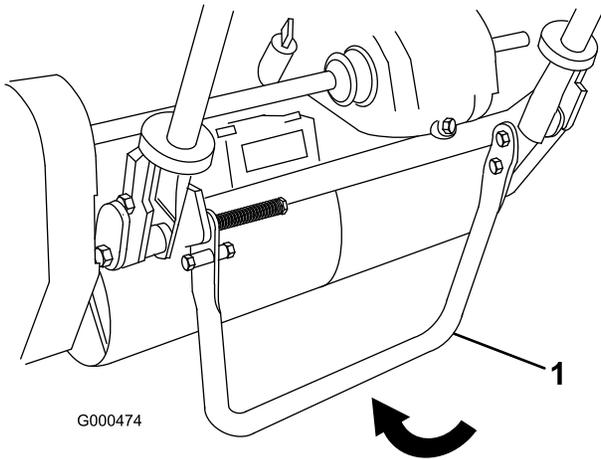

Figure 21
1. Push kick stand down with foot and pull up on handle support until kick stand has rotated forward, over center (Figure 21).